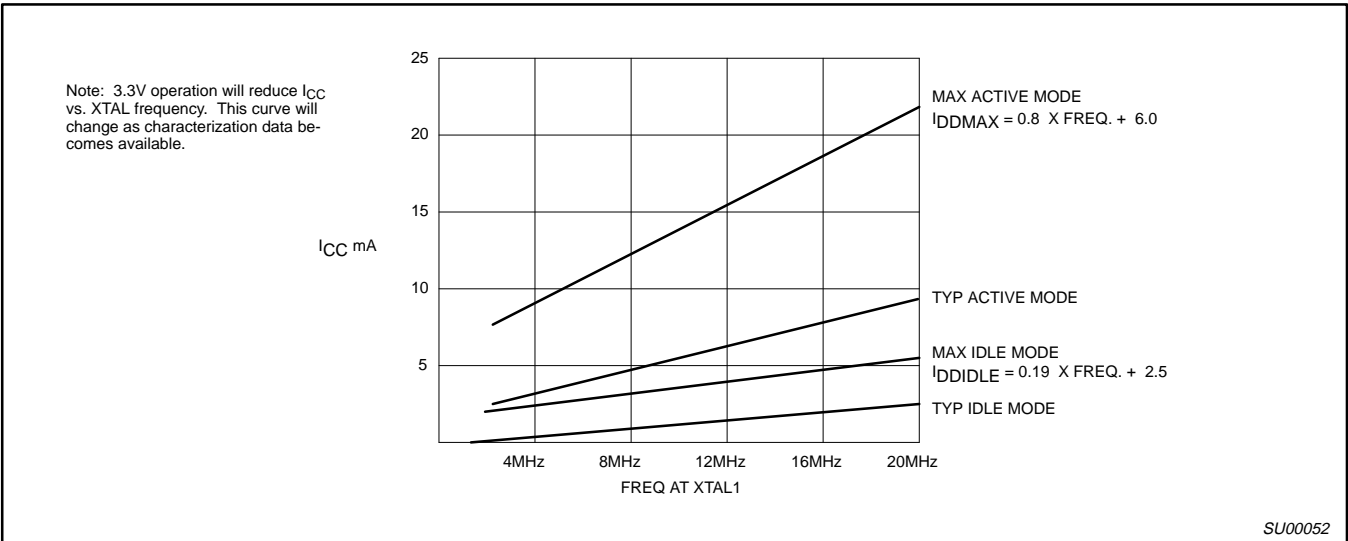

Figure 8.  $I_{CC}$  vs. FREQ Valid only within frequency specifications of the device under test
- $I_{CCMAX}$  at other frequencies is given by: Active mode:  $I_{CCMAX} = 0.8 \times \text{FREQ} + 6$ ; Idle mode:  $I_{CCMAX} = 0.19 \times \text{FREQ} + 2.50$ , where FREQ is the external oscillator frequency in MHz.  $I_{CCMAX}$  is given in mA. See Figure 8.